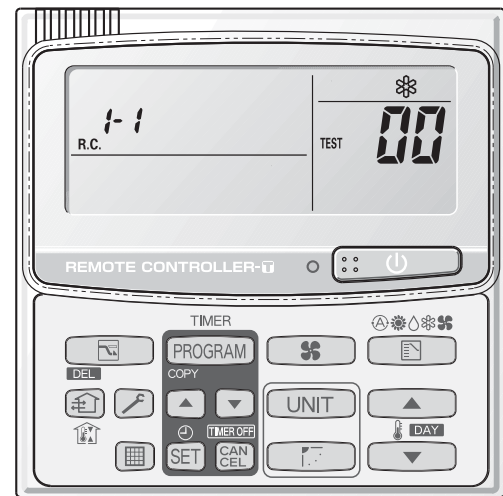

Fig. 2
- **All units test run (Fig. 2)**